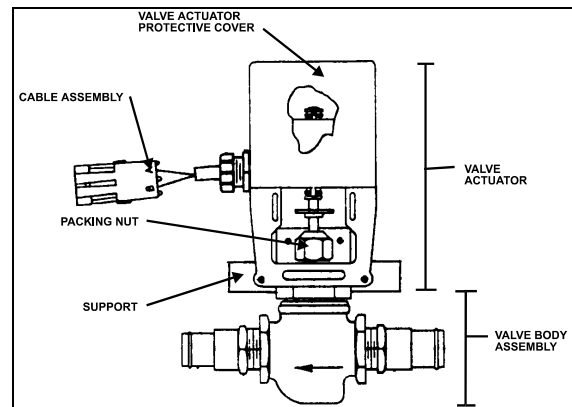

FIGURE 35: MAIN HOT WATER SOLENOID VALVE 22054
3. Disconnect cables and the fresh air sensor. Remove the main hot water solenoid valve actuator (Fig. 35) from the line by removing connectors at pipe outlets and removing screws on the support.